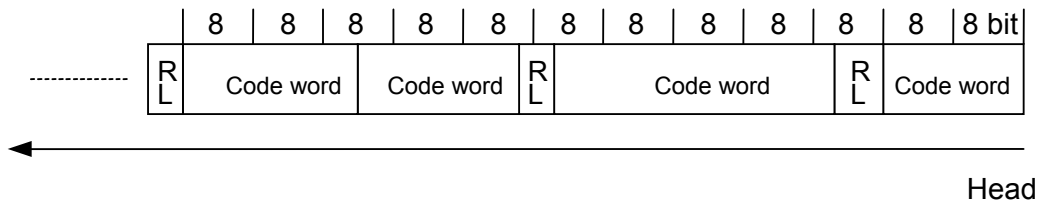

Figure A-4
- (1) Expand the binary data subsequent to tables into a bit sequence. Placing the retrieved binary data in a line from right to left, process the data from right to left. (See Figure A-4.)